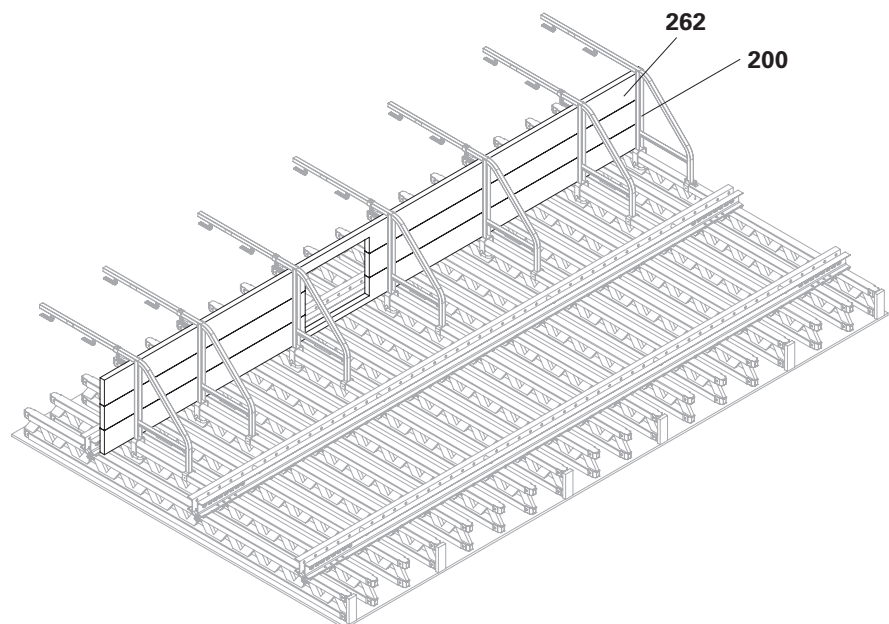

Fig. B7.04
3. Place the planking (**262**) on Scaffold Bracket GB 80 (**28**), align and secure from below with Torx 6 x 40 (**200**). (Fig. B7.04)